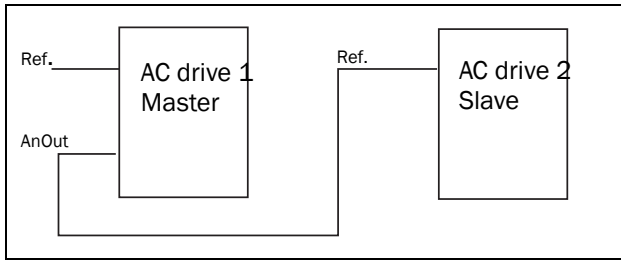

Fig. 98
- a reference signal for the next AC drive in a Master/ Slave configuration (see Fig. 98).